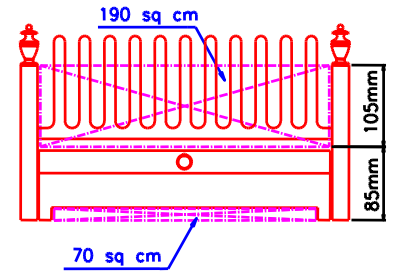

Fig. 2 Optional fret minimum ventilation requirement
If a fret from another manufacturer is being used, it must comply with the minimum free area requirements shown in Fig. 2.
*Note: If a fret from another manufacturer is being used, it must comply with the minimum free area requirements shown in Fig. 2.*